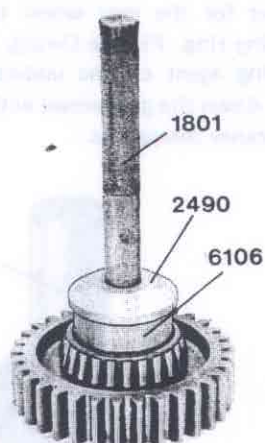

Fig. 77-14. Installing the inner bearing inner ring
8. Press on the inner bearing inner ring with sleeve 6106, drift 2490, and standard handle 1801, see Fig. 77-14.